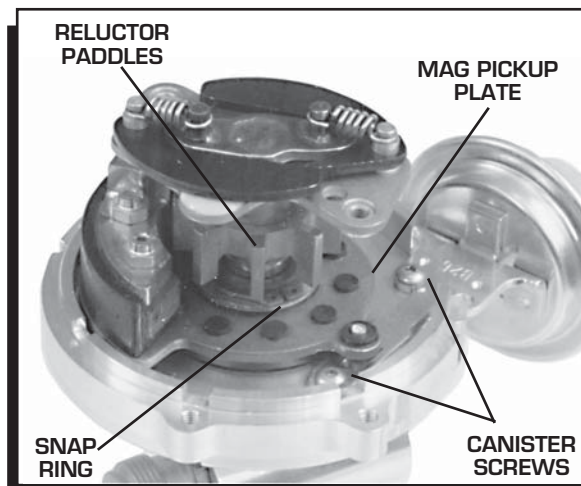

Figure 11 Removing the Vacuum Canister.
1. Remove the two Allen head screws that hold the advance canister (Figure 11).